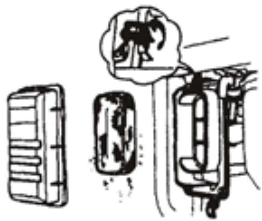

Figure 17
3.1 Remove the air cleaner housing (Figure 17)